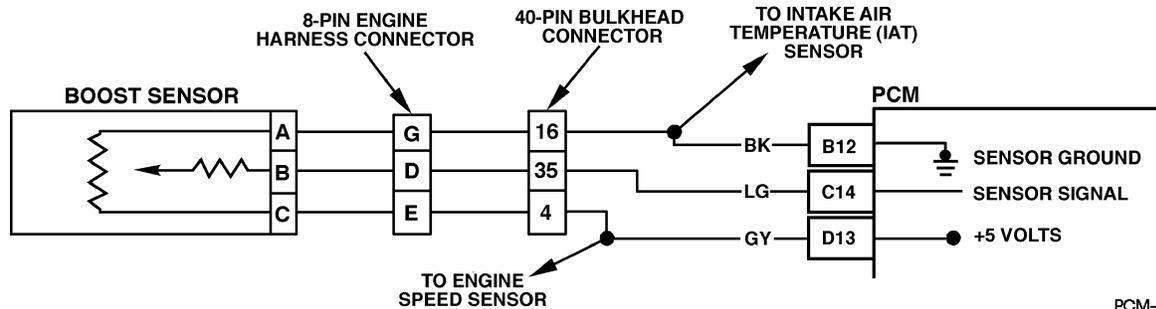

Figure PCM-24 Turbocharger (TC) Boost Sensor Circuit Low Voltage
DTC P0237 Turbocharger (TC) Boost Sensor Circuit Low Voltage (Figure PCM-24)